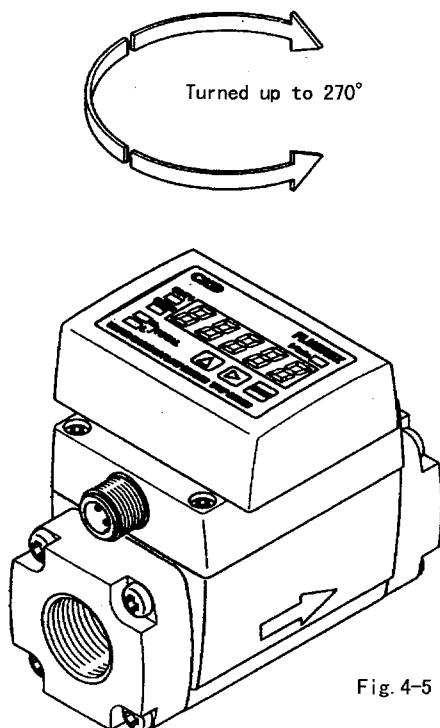

Fig. 4-5
• The display (7-segment LED) on the top can be turned up to 270° . Turn the display to a position where values on the display can be seen easily. (See Fig. 4-5.)